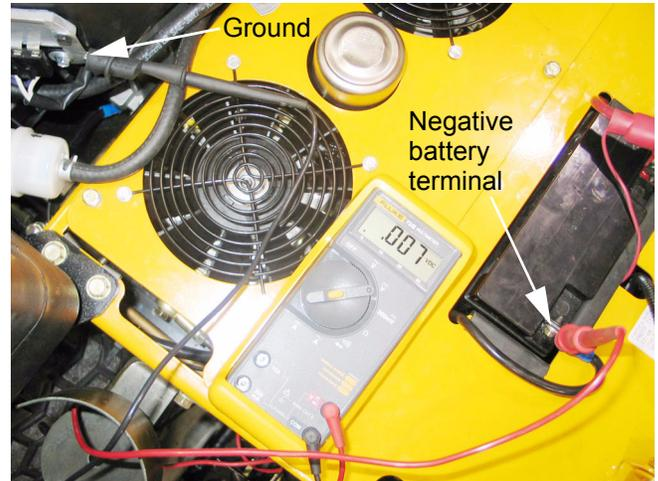

Figure 36.10
36.10. To demonstrate a voltage drop test on the ground side of the system, the meter is connected between the negative terminal on the battery, and the ground strap on the regulator / rectifier. See Figure 36.10.